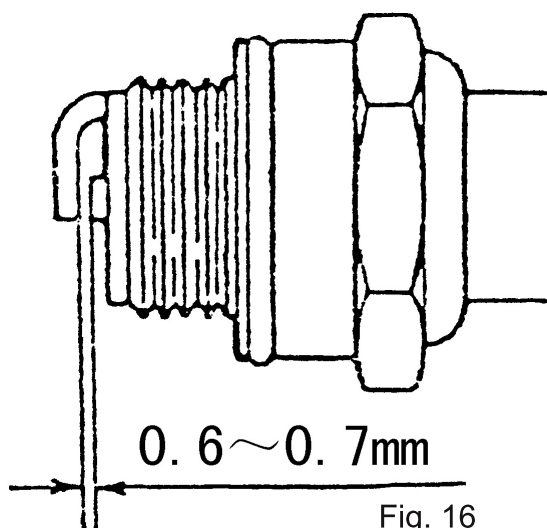

Fig. 16
(1) After the operation each day, wash the filter, if the chemicals adhere to sponge, it would deduce the engine power, please pay attention especially.
(2) After wash the sponge with petrol, squeeze the petrol then fix the sponge in.
(3) The suitable clearance of sparking plug is 0.6—0.7mm, please check the clearance often, if it is too big or too small, adjust it properly, as shown in Fig.16.